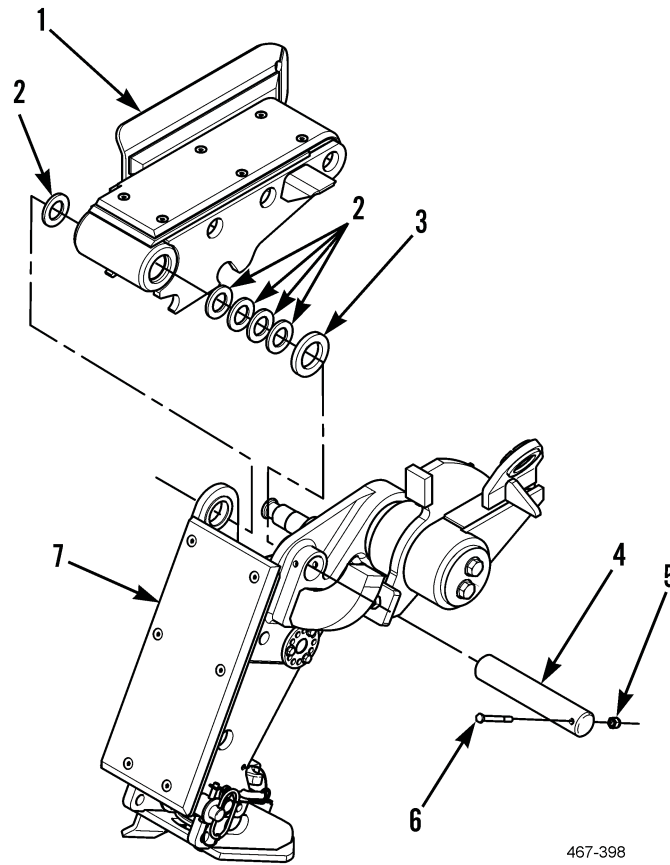

Figure 1. Front Slider Bed.
1. Attach sling and lifting device to front slider bed (Figure 1, Item 1).
3. Remove locknut (Figure 1, Item 5) and bolt (Figure 1, Item 6) from rear slider bed (Figure 1, Item 7). Discard locknut.
4. Remove pin (Figure 1, Item 4), shims (Figure 1, Item 2) and spacer (Figure 1, Item 3) from front slider bed (Figure 1, Item 1).
5. Use lifting device to remove front slider bed (Figure 1, Item 1) from rear slider bed (Figure 1, Item 7) and place on flat work surface.
6. Remove lifting device and sling from front slider bed (Figure 1, Item 1).